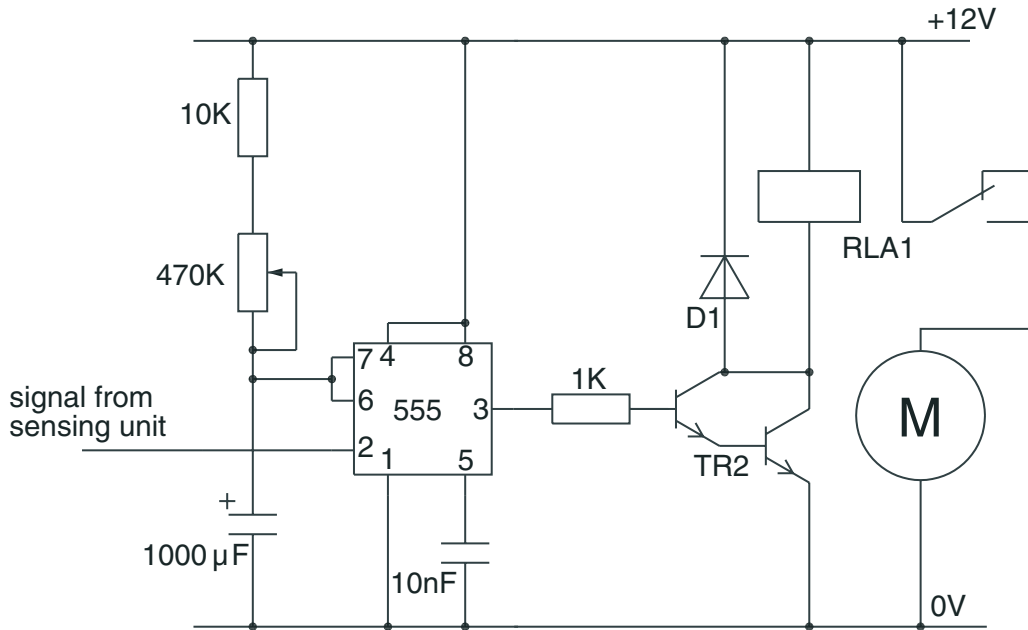

Fig. 12
- (c) Fig. 12 shows the completed circuit. Calculate the **maximum** time period using these components. Use the formula $t=1.1R_1C$